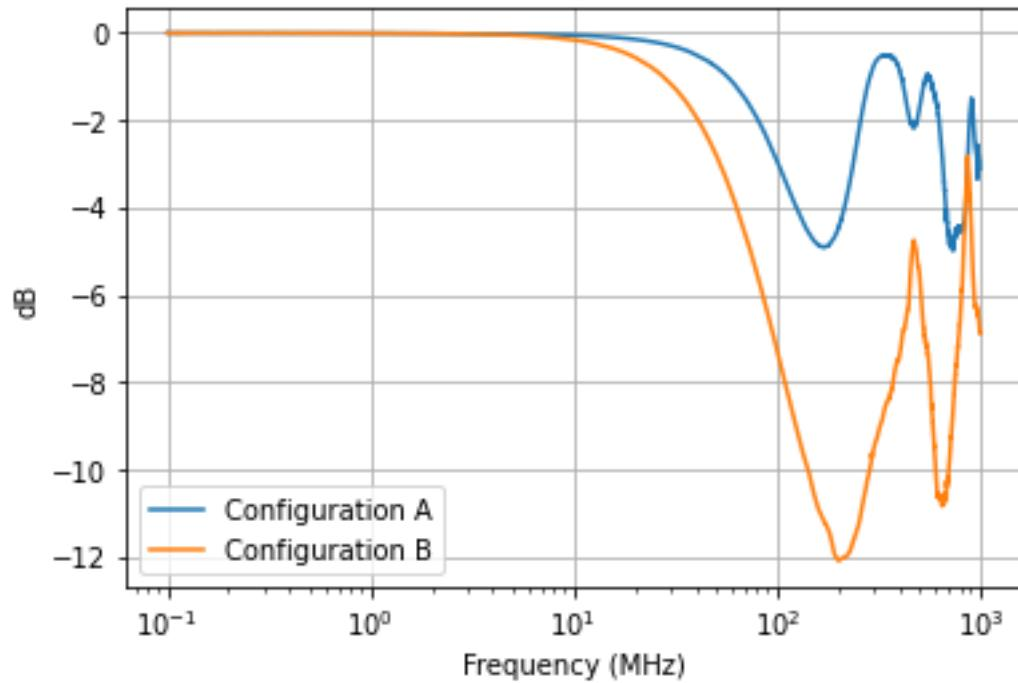

Figure 2: The  $|S_{21}|$  parameter measured in  $dB$  for both configurations.
**Answer:** In Configuration A, the wire is placed as close to the ground plane as possible, which creates a smaller inductive loop. This results in lower self-inductance and a better transfer of high-frequency signals. In Configuration B, the wire is held at a maximum distance from the ground plane, creating a larger inductive loop. This results in higher self-inductance and poorer transfer of high-frequency signals due to the increased impedance in the circuit. This is verified by the measurements plotted in Figure 2. The bottleneck that creates this problem is the increased impedance in the circuit due to the larger inductive loop.